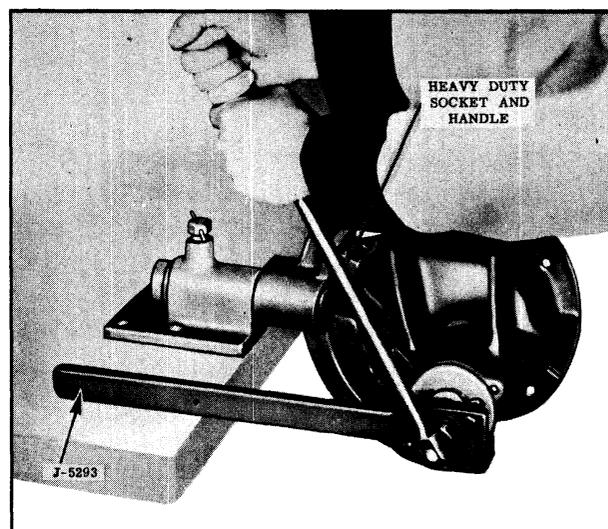

Fig. 6-16 Removing Companion Flange Nut
11. Turn the assembly to a horizontal position as shown in Fig. 6-16; then, using Tool J-5293 to hold pinion, remove the companion flange nut using a 1-1/4" socket.